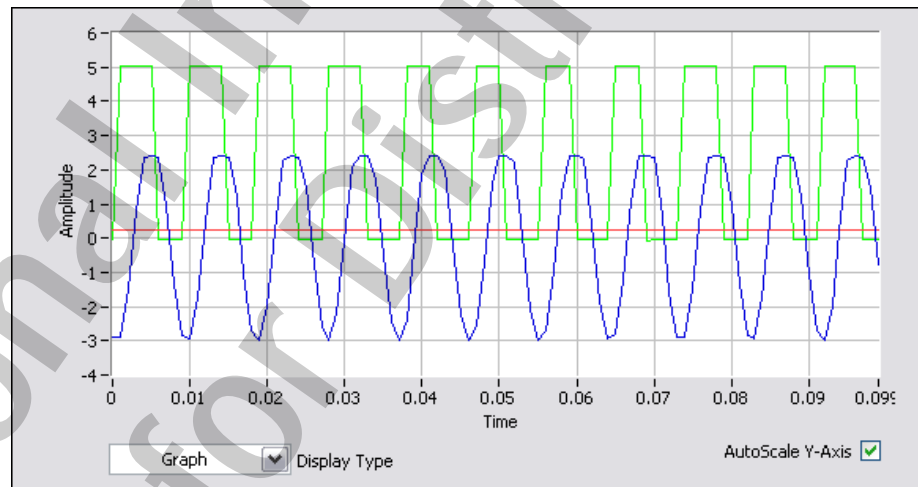

Figure 2-10. Graph Display of NI-DAQmx Task
- ☐ At the top of the task click the **Run** button to acquire data. Choose **Graph** for the **Display** type to see a better representation of the data, as shown in Figure 2-10.